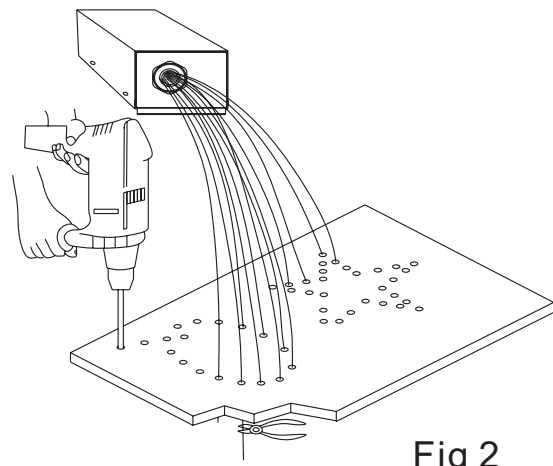

Fig 2
2. The installation of the end part of the fiber optic (see Fig. 2)